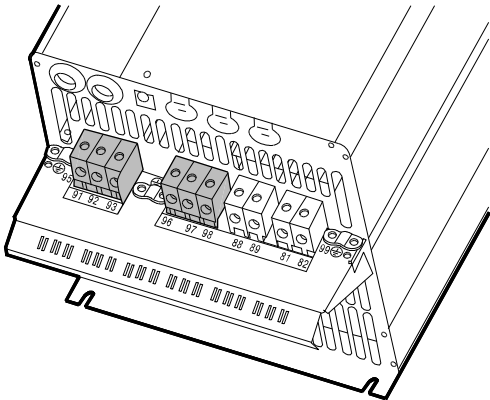

Fig. 28 Mains and motor connection, C3
1. Connect the earth conductor to terminal 95 (PE). See figs 28 and 29.
1. Connect the earth conductor to terminal 99 (PE). See figs 28 and 29.
2. Connect the motor conductors to terminals 96 (U), 97 (V), 98 (W).